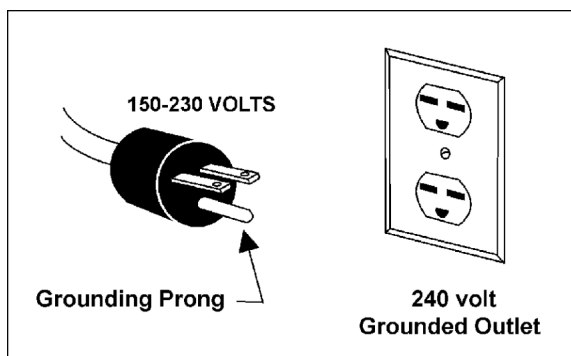

Figure 24
3. The 115V attachment plug supplied with the band saw must be replaced with a UL/CSA listed plug suitable for 230V operation, as shown in Figure 24. Contact your local authorized Walter Meier service center or qualified electrician for proper procedures to install the plug. The band saw must comply with all local and national codes after the 230 volt plug is installed.
4. The band saw with a 230 volt plug should only be connected to an outlet having the same configuration (Figure 24). No adapter is available or should be used with the 230 volt plug.